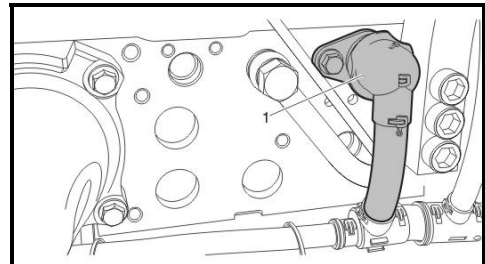

FIGURE 15
21. Disconnect the cylinder head pass through fastener. Carefully remove the harness from the pass through (fig. 15).